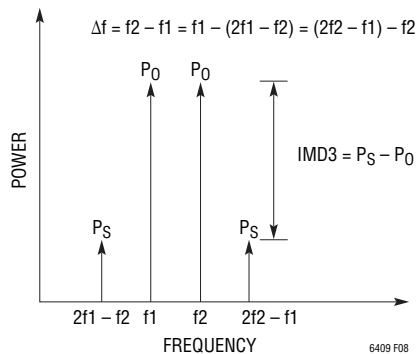
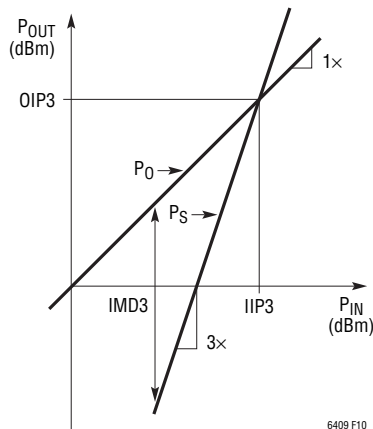

Figure 8. Definition of IMD3
Figure 9. Graphical Representation of the Relationship between IMD3 and OIP3
The definition of 3rd order intermodulation distortion (IMD3) is shown in Figure 8. Also, a graphical representation of how to relate IMD3 to output/input 3rd order intercept points (OIP3/IIP3) has been depicted in Figure 9. Based on this figure, Equation (4) gives the definition of the intercept point, relative to the intermodulation distortion.
P_0 is the output power of each of the two tones at which IMD3 is measured, as shown in Figure 9. It is calculated in dBm as: